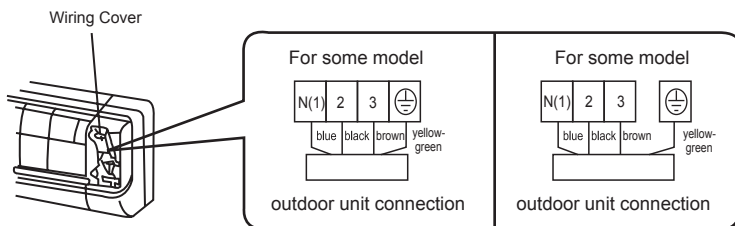

Fig.6
2. Remove the wiring cover as shown in Fig 6.